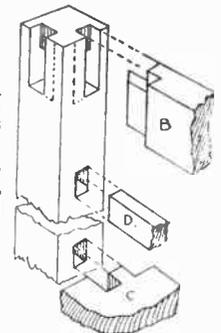
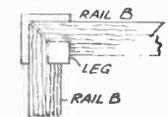

Fig. 4—Framing joints
Fig. 5—Corner joints
The first part to make is the frame for taking the structure. Make this from  $\frac{1}{8}$  in. by  $\frac{1}{2}$  in. wood and  $3\frac{1}{2}$  ins. long, and round the ends off as shown in Fig. 2. Two cross bearers are needed  $1\frac{1}{2}$  ins. in length from  $\frac{1}{2}$  in. by  $\frac{1}{2}$  in. material. Along the centre is another bar at least  $\frac{1}{2}$  in. wide to take the sump heads as shown in Fig. 5, and also to allow the wheels to pivot on the front axle.
In making the table you will be greatly helped by the details given at Figs. 2 to 7. These clearly show the method of construction, and also give the principal dimensions. Figs. 2 and 3 show two side views of the table; Fig. 4 shows the method of framing the parts together; Fig. 5 explains the
In making the table the first operation will be to plane up the legs and the cross rails, and to frame them together. The side rails are mortised and tenoned into the legs, as shown in Figs. 4 and 5, and the mortises and tenons should be set out with the marking gauge and try square or a set square.
The mortises are cut from each side of the legs until they meet in the middle, and the ends of the tenons must be mitred to meet in the mortises, as shown in the plan at Fig. 5.
The shelf (C) should next be framed into the legs; it is notched over the legs, and is stub-tenoned into them, as shown at Fig. 4. The tenons which are formed at the ends of the shelf are ¾in. long by ¾in. wide, and care must be taken to cut these tenons so they will be in a line with the small rails which are framed between the shelf, the side rails and the legs, as given in the detail in Fig. 4. The small rails at the sides are then framed together, and let into the shelf, top rails and the legs.